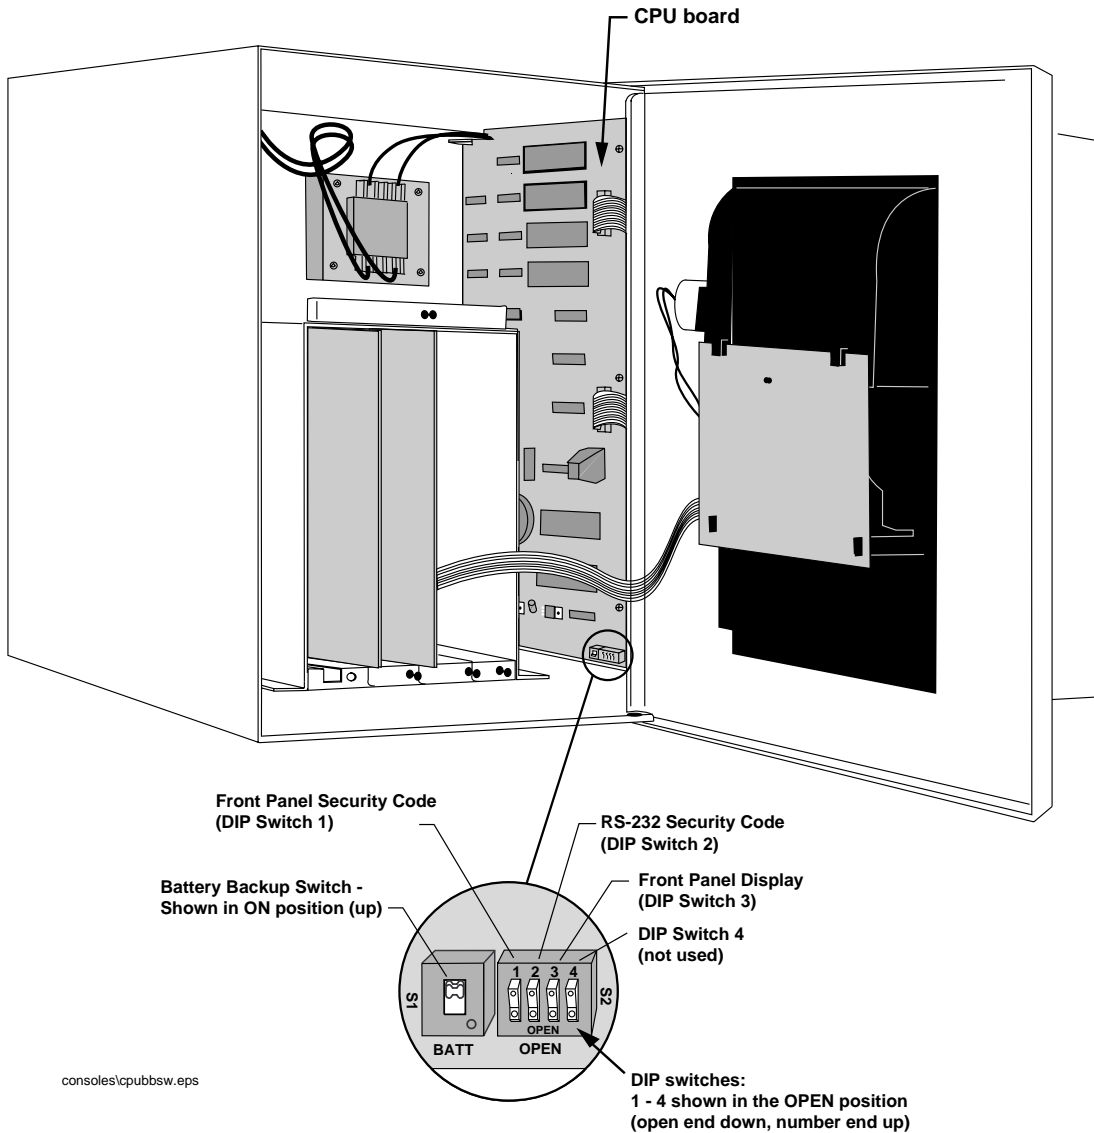
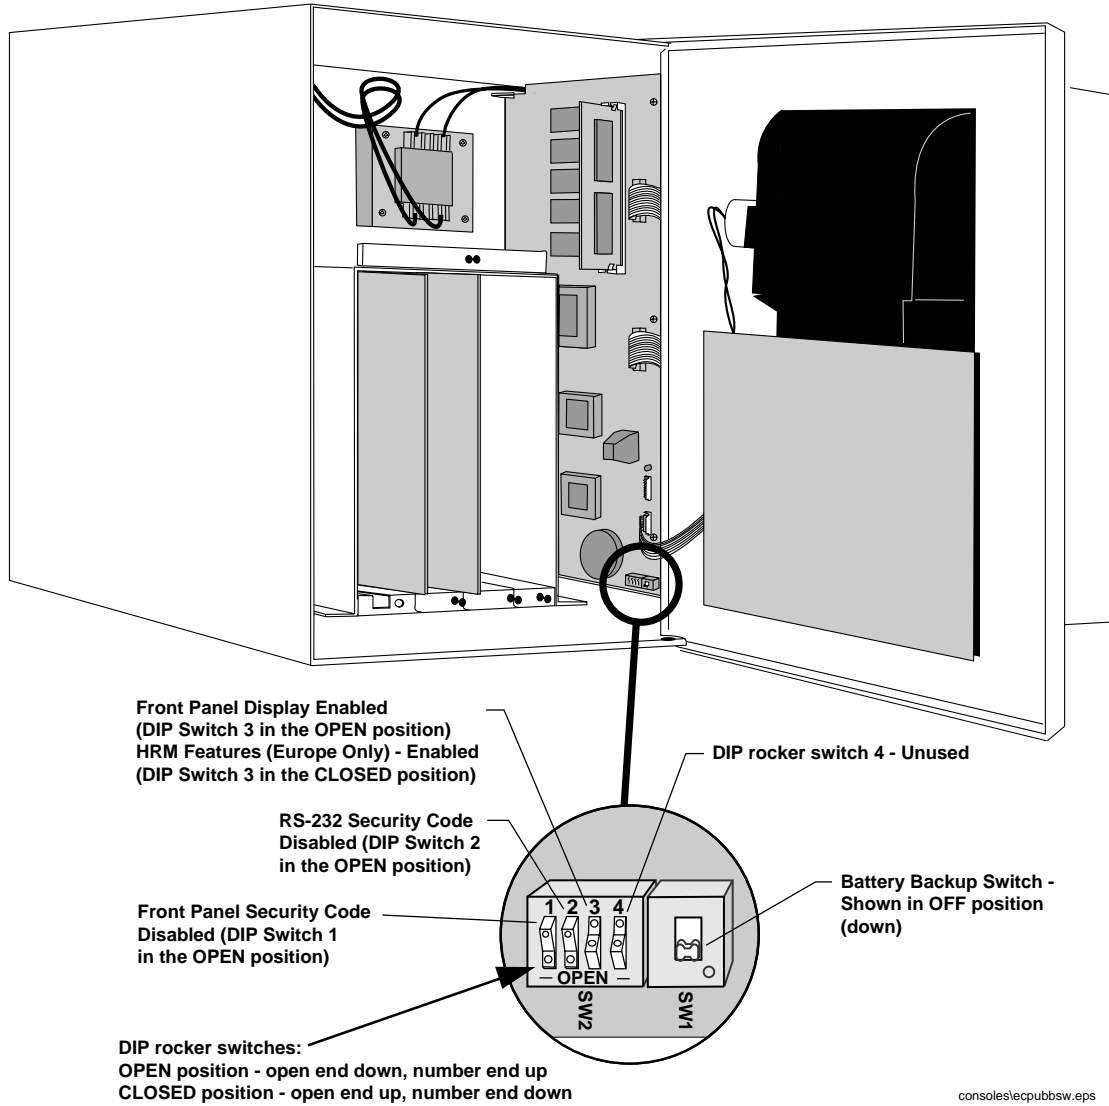

Figure 1. CPU Board Battery Switch ON (S2)
Figure 2. EPCPU Board Battery Switch ON (SW1)
3. To retain current programming, be sure that the CPU (for TLS-350) or ECPU (for TLS-350R) board battery switch is set to “ON” (see Figure 1 on page 7 and Figure 2 on page 8). To avoid electrical shock or damage to components, if accessing the battery switch, avoid touching any circuit components with your hand or any conductive tool or jewelry.